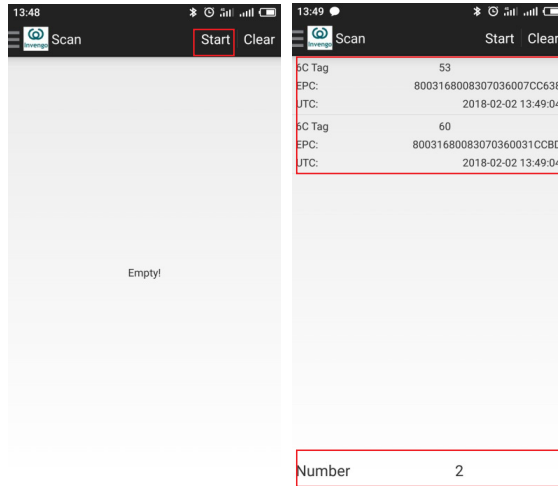

Figure 12 RFID tag reading
- 2) Tag reading information is located in the center of the interface. Total number of tags locates at the bottom, as shown in Figure 12